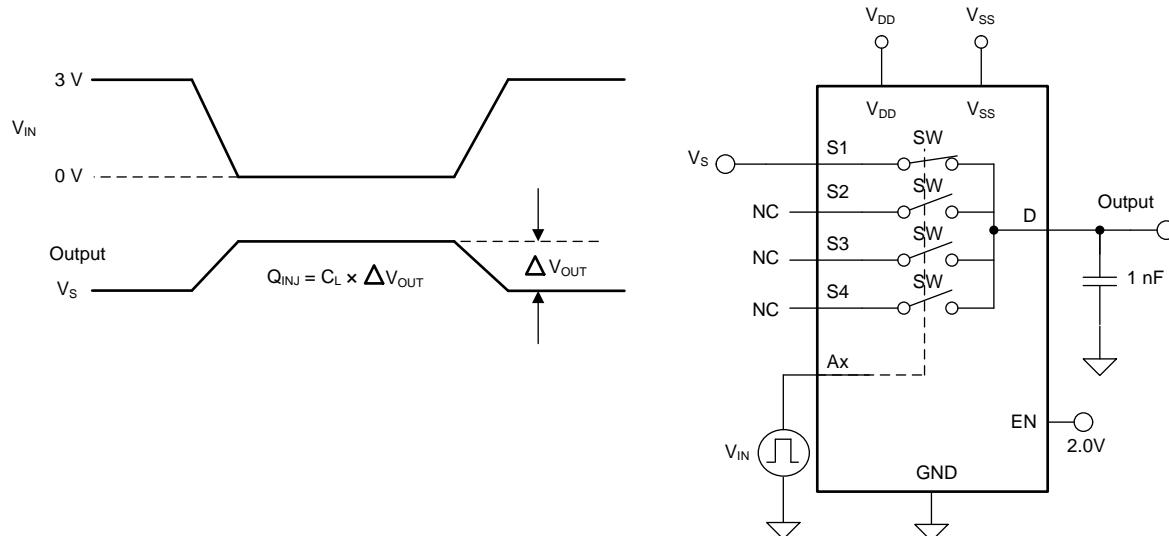

図 23. Charge-Injection Measurement Setup
The TMUX6104 have a simple transmission-gate topology. Any mismatch in capacitance between the NMOS and PMOS transistors results in a charge injected into the drain or source during the falling or rising edge of the gate signal. The amount of charge injected into the source or drain of the device is known as charge injection, and is denoted by the symbol  $Q_{INJ}$ . 図 23 shows the setup used to measure charge injection from source (Sx) to drain (D).